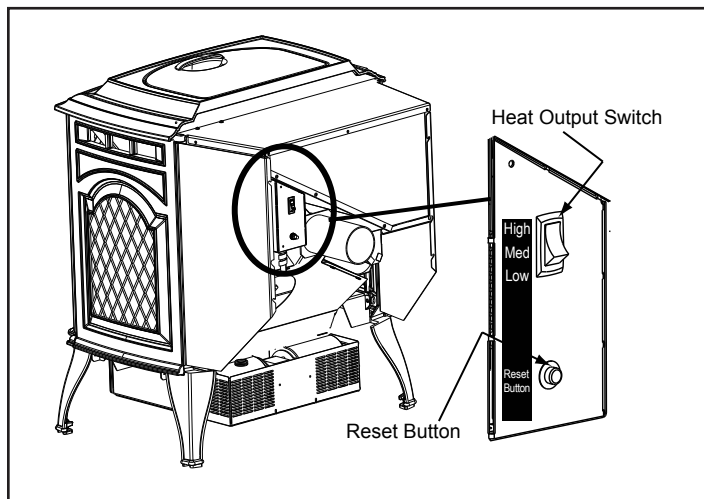

Figure 8.1
3. Locate the heat output control switch mounted on the back of the appliance in the upper right corner. **Figure 8.1.** Turn it to the "high" setting by pushing the top of the control switch in and then adjust the thermostat to its highest setting. Remove the right side panel and the red call light located to the left of the control box will be on. **Figure 9.2.** This indicates the thermostat is calling for heat.
3. Occasionally the appliance may run out of fuel and shut itself down. When this happens, the red call light will be on. **See Figure 9.2.** To restart it, fill the hopper and press the reset button. **See Figure 8.1, page 8.** When you press the reset button the red call light will go out. Release the button and the light will come back on. You should see a fire shortly. If not, follow the instructions on **page 8**, of “Starting Your First Fire”.